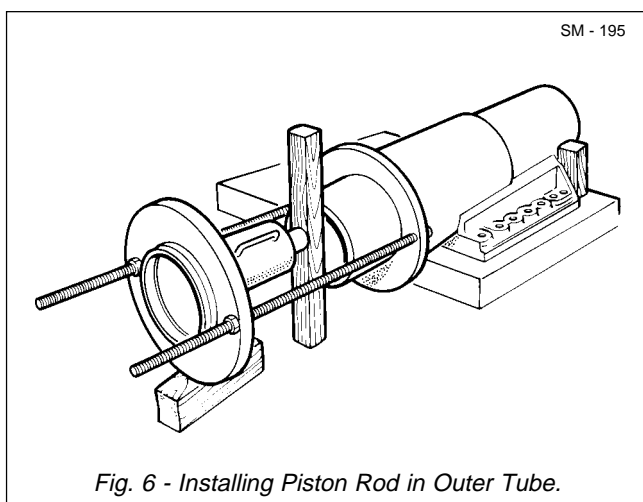

Fig. 6 - Installing Piston Rod in Outer Tube.
Note: A convenient method for pressing piston rod (24) into tube (18) is as follows. Refer to Fig. 6.
- a) Using two 915 mm (36 in) long pieces of 12 mm (0.5 in) threaded rod stock, four washers and nuts, connect end cap (20) (outboard side facing inward) to the outer tube.
- b) Support one end of a hydraulic jack against end cap (20) and the other end against a block of wood long enough to extend beyond the circumference of piston rod (24). This will prevent a metal-to-metal contact between the jack and piston rod; avoiding possible piston rod/piston damage.
- c) Extend the jack until piston rod (24) is flush with tube (18).
- e) Move piston rod (24) and piston (13) assembly to